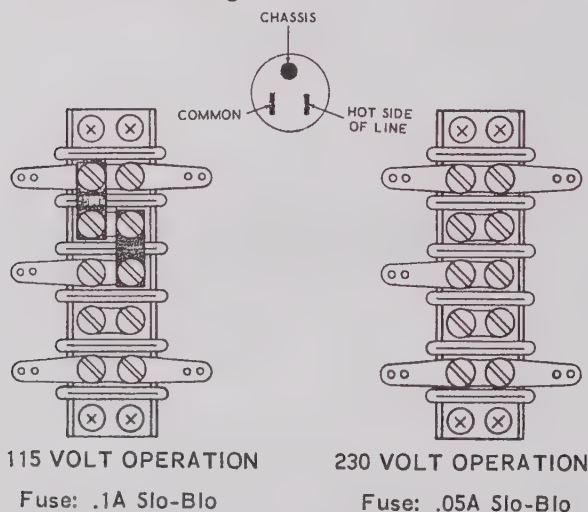

Figure 2. Power Supply Connections
b. Power Connections. The power cord is terminated in a three-prong male connector. Viewing the connector from the pin end with the round pin at the top, the left hand pin is connected to common, the right hand pin to the hot side of the lines, and the round pin to chassis. (See Figure 2.) It is important that the chassis be connected directly to a good earth ground connection. Large amounts of noise or 60 Hz voltage on the chassis may affect the performance. Be sure the power switch is in the OFF position before inserting the line plug. More than one ground should not be used with the instrument as circulating ground currents may cause errors in the readings.
c. Power Line Voltage. The instrument is designed for operation on power lines of 105-125 or 210-250 volts. Check the transformer connections and the line fuses to make certain that they correspond to those in Figure 2 for the particular line voltage to be used. The fuse is located on the rear panel of the instrument. The transformer connections are accessible by removing the top dust cover.